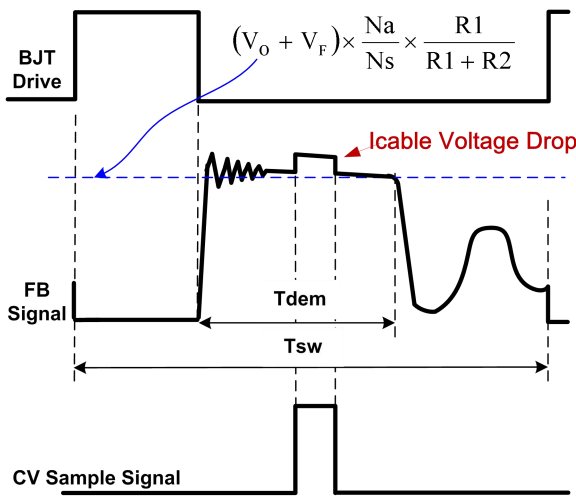

Fig.2
In primary side Regulation control, the output voltage is sensed on the auxiliary winding during the transfer of transformer energy to the secondary. Fig.2 illustrates the timing waveform of CV sampling signal, demagnetization signal (DEM) and quasi-resonant (QR) trigger signal in DP2525D. When the CV sampling process is over, the internal sample/hold (S&H) circuit captures the error signal and amplifies it through the internal Error Amplifier (EA). The output of EA is sent to the Quasi Resonant PSR CV Modulator (QR-CVM) for CV regulation. A valley is selected to trigger new PWM cycle by the output of the QR-CVM block, which is determined by the load. The internal reference voltage for EA is trimmed to 2V with high accuracy.
During the CV sampling process, an internal variable current source is flowing to FB pin for Cable Drop Compensation (CDC). Thus, there is a step at FB pin in the transformer demagnetization process, as shown in Fig.2. Fig.2 also illustrates the equation for “demagnetization plateau”, where V_o and V_F is the output voltage and diode forward voltage; R_1 and R_2 is the resistor divider connected from the auxiliary winding to FB Pin, N_s and N_a are secondary winding and auxiliary winding respectively.